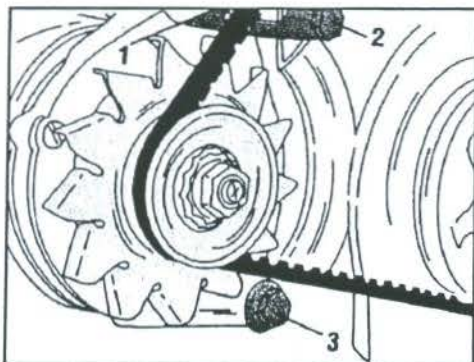

Fig. 9.33 – Bolts 1 to 3 secure the alternator to its mounting.
Tighten the two bolts (2) and (3) in Fig. 9.33 when the correct tension is obtained.